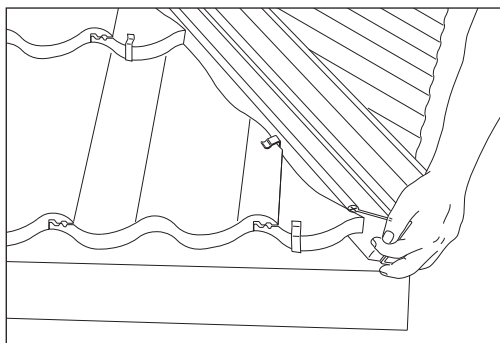

Fig 7 Locate Hip Batten Section between cut tiles
- 9 Locate batten section assembly into gap between cut tiles up length of hip. Two or more lengths may be joined together up hip, ensuring that closed cell foam rubber strip from each section abuts tightly to prevent water ingress (Fig 7).